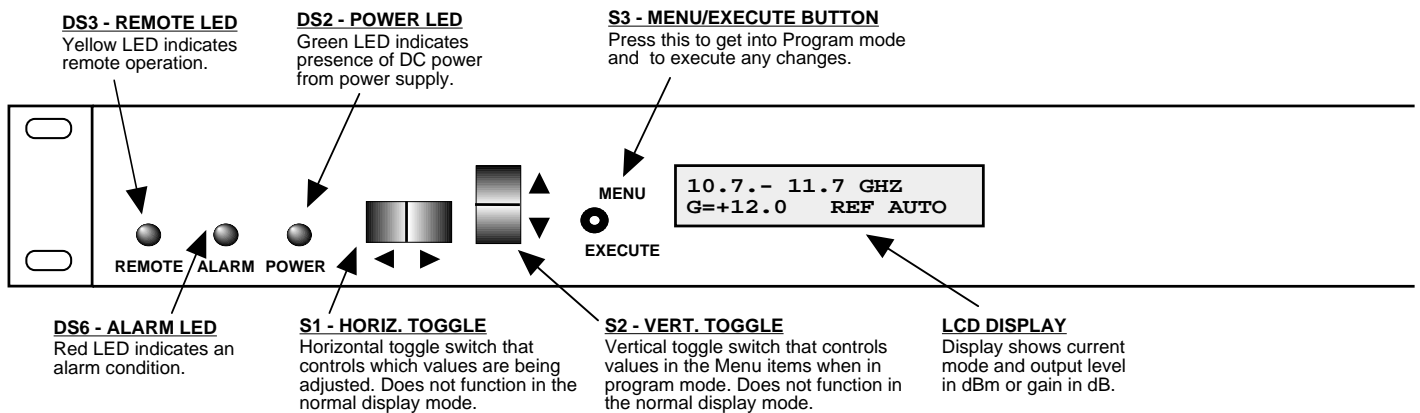

FIGURE 2.2 3115-107 Front Panel Controls and Indicators
Figure 2.2 shows the front panel controls and indicators.
5. Be sure DS2 (green, DC Power) is on and DS6 (red, Alarm) is off (Figure 2.2).
Alarm indications appear on the LEDs (see Figure 2.2).